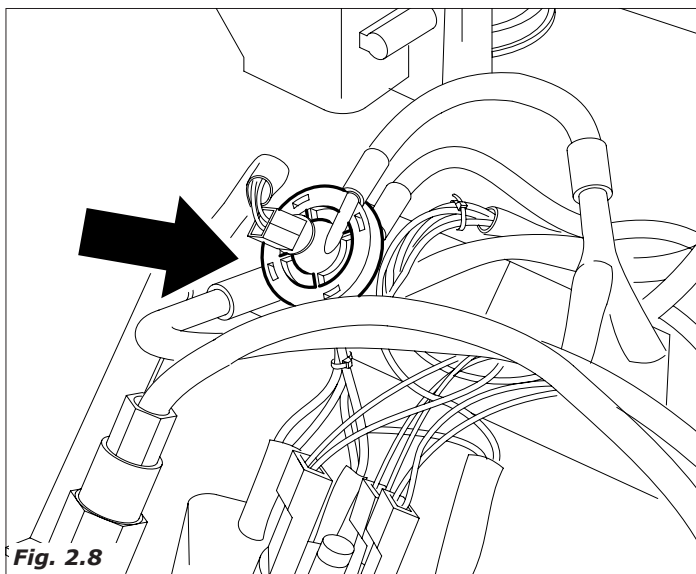

Fig. 2.8
- the coffee group geared motor is activated again so as to bring again into standby position ; during this movement the used coffee grounds are expelled (Fig.2.8)